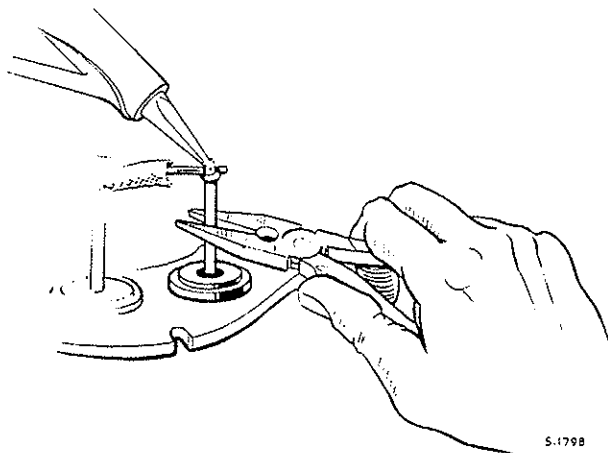

Fig. N.15. Use of thermal shunt when soldering diode connections
1. The alternator heat sink assembly consists of two parts, one of positive polarity and the other negative (see Fig. N.15). The positive portion carries three cathode base diodes marked red, and the negative portion three anode base diodes marked black. The diodes are not individually replaceable, but, for service purposes, are supplied already pressed into the appropriate heat sink portion.